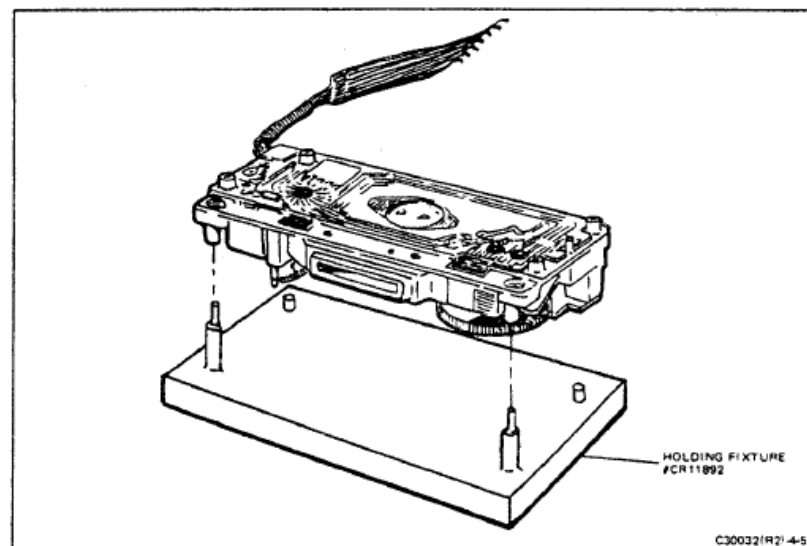

FIGURE 4-53 MOUNTING SHUTTER ON HOLDING FIXTURE
- c. Set the shutter assembly onto holding fixture #CR11892 as shown in Figure 4-53.